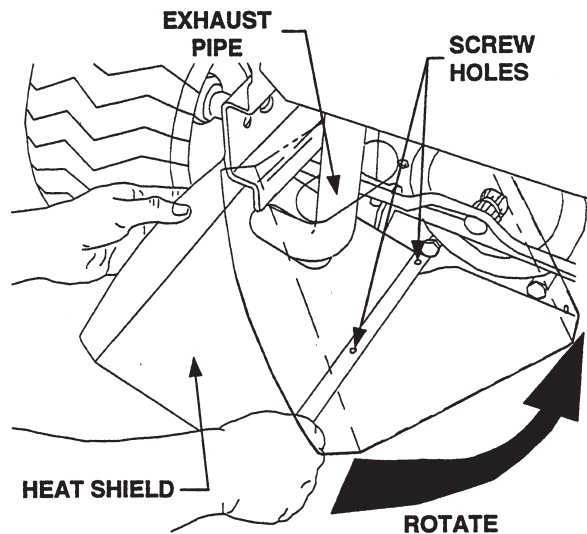

Figure 2
3. With the forms (bends) facing upward and the screw holes inward, slide the heat shield onto the exhaust pipe of the muffler (See Figure 2).
4. While tipping the back of the shield upward, rotate it rearward to position the shield within the frame channels. See Figure 2.